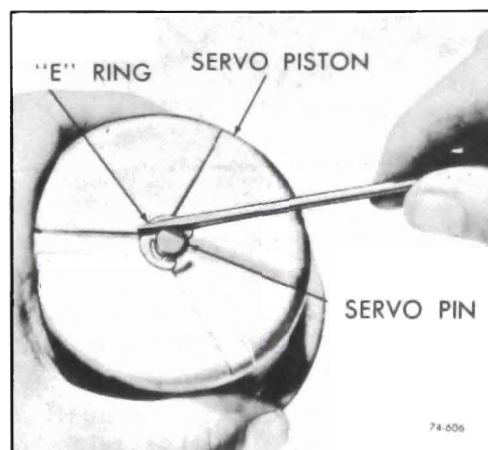

Figure 76-606
2. Install band apply pin retainer, spring and washer into bore of servo piston and secure with "E" ring. See Figure 76-606.